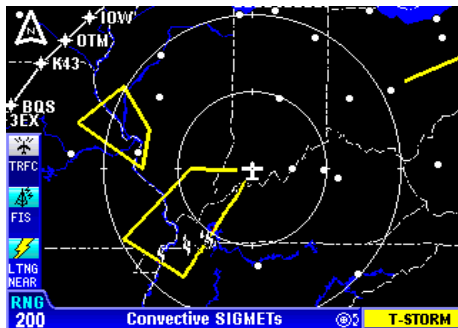

Figure 2-38
1. Press the **WX** Function Select Key until the FIS Graphics Page is displayed. If necessary, turn the Rotary Knob to obtain the Graphical Convective SIGMETs display similar to Figure 2-38. **Convective SIGMETs** will be displayed at the bottom of the display.